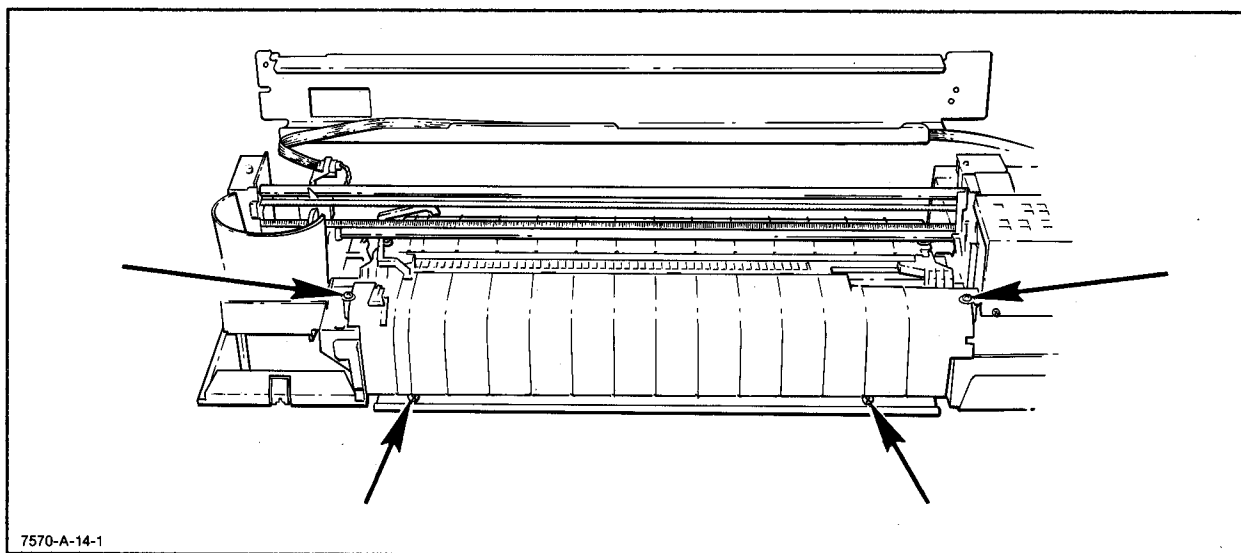

Figure 6-7. Platen Removal
- b. Remove the self-tapping screws securing the upper ends of the platen. See Figure 6-7.
- c. Loosen, but do not remove the two machine screws securing the platen to the plotter. See Figure 6-7.